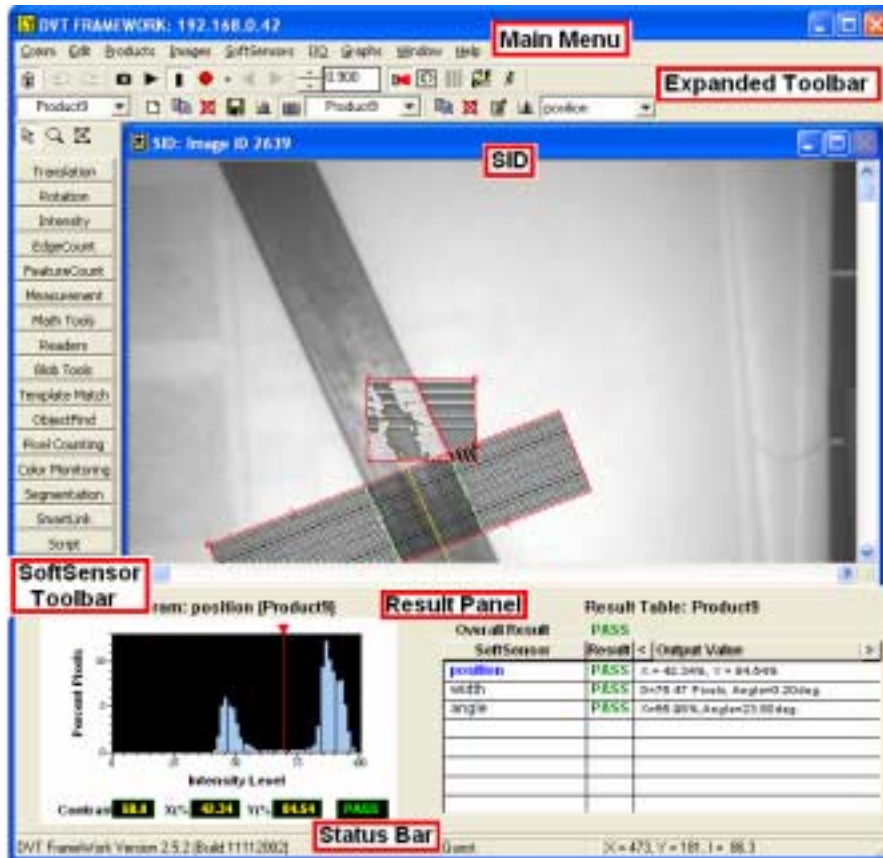

Figure 25: screen capture of the user interface highlighting the most important areas
The FrameWork User Interface is a Microsoft Windows application used for the configuration of SmartImage Sensors. The main areas of the interface are the main menu, the expanded toolbar, the SoftSensor toolbar, the SID, the result panel, and the status bar. Figure 25 shows a screen capture of the FrameWork user interface highlighting these areas.
The result panel is a combination of two elements that have been discussed in this chapter. The result table and the sensor graph for the SoftSensor that is selected from the result table. Figure 25 shows three SoftSensors in the result table. The selected SoftSensor is the one highlighted in blue, so the sensor graph to the left of the result table corresponds to this SoftSensor (named position).
- Instructions section: this is the left side of the bar. In Figure 25 it shows the version of FrameWork being used, but when the user selects to create a new SoftSensor, it displays the click-by-click instructions so the user does not need to remember how to draw every SoftSensor.
- User section: this section is related to the SmartImage Sensor administrator, it shows the username under which the current operator is logged on. Figure 25 shows "Guest" because no user has logged on.